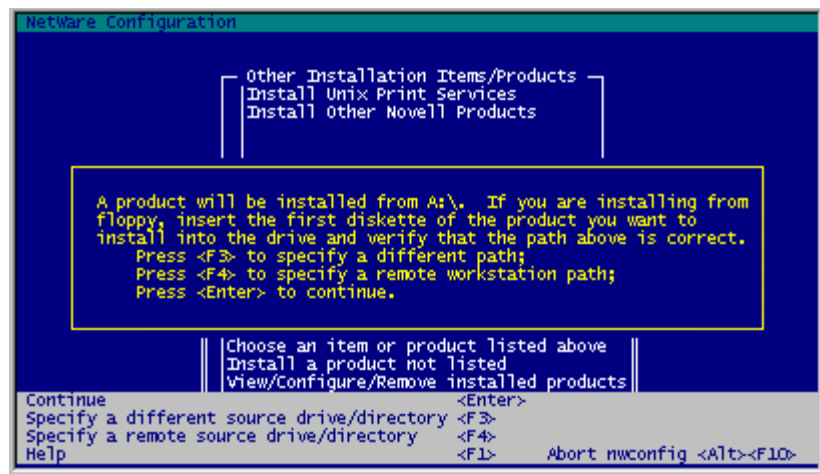

Figure 3-22. Drive Selection Pop-Up
- Select “**Install a product not listed**” and press the **ENTER** key. A pop-up box (Figure 3-22) will appear allowing you to specify a drive to be used for installation. Press **F3** to enter the path of your CD.